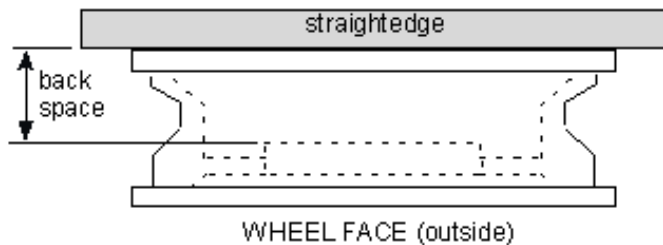

Figure 2: Wheel Back Space Diagram
1. Wheel back spacing shall be between 3½" and 4½". Back space is measured according to Figure 2.